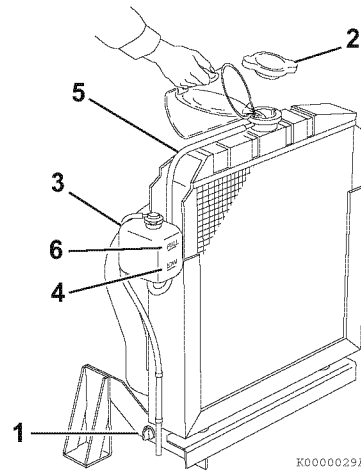
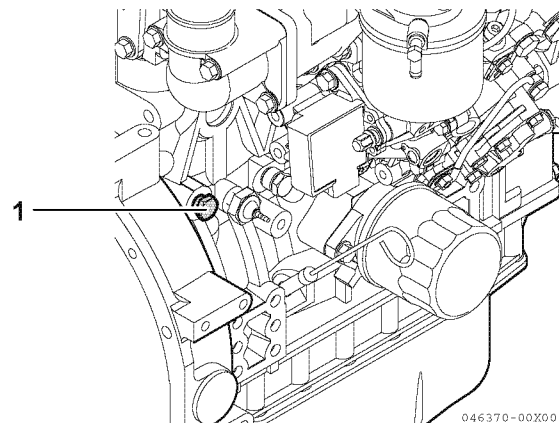

Figure 4-7
Figure 4-8
Fill the radiator and reserve tank as follows. This procedure is for filling the radiator for the first time or refilling it after it is flushed. Note that a typical radiator is illustrated (**Figure 4-7**).
1. Check to be sure the radiator drain plug is installed and tightened or the drain cock (**Figure 4-7, (1)**) is closed. Also make sure the coolant drain plug (**Figure 4-8, (1)**) in the cylinder block is closed.
2. Remove the radiator cap (**Figure 4-7, (2)**) by turning it counter-clockwise about 1/3 of a turn.
4. Reinstall the radiator cap (**Figure 4-7, (2)**). Align the tabs on the back side of the radiator cap with the notches on the engine coolant filler port. Press down and turn the cap clockwise about 1/3 of a turn.
5. Remove the cap on the reserve tank (**Figure 4-7, (3)**), and fill it to the LOW (COLD) mark (**Figure 4-7, (4)**) with engine coolant. Reinstall the cap.
6. Check the hose (**Figure 4-7, (5)**) that connects the reserve tank (**Figure 4-7, (3)**) to the radiator. Be sure it is securely connected and there are no cracks or damage. If the hose is damaged, the engine coolant will leak out instead of going into the reserve tank.
7. Run the engine until it is at operating temperature. Check the level of engine coolant in the reserve tank. When the engine is running and the engine coolant is at normal temperature, the coolant level in the tank should be at the FULL (HOT) mark (**Figure 4-7, (6)**). If the engine coolant is not at the FULL (HOT) mark (**Figure 4-7, (6)**), add additional engine coolant to the reserve tank to bring the level to the FULL (HOT) mark.